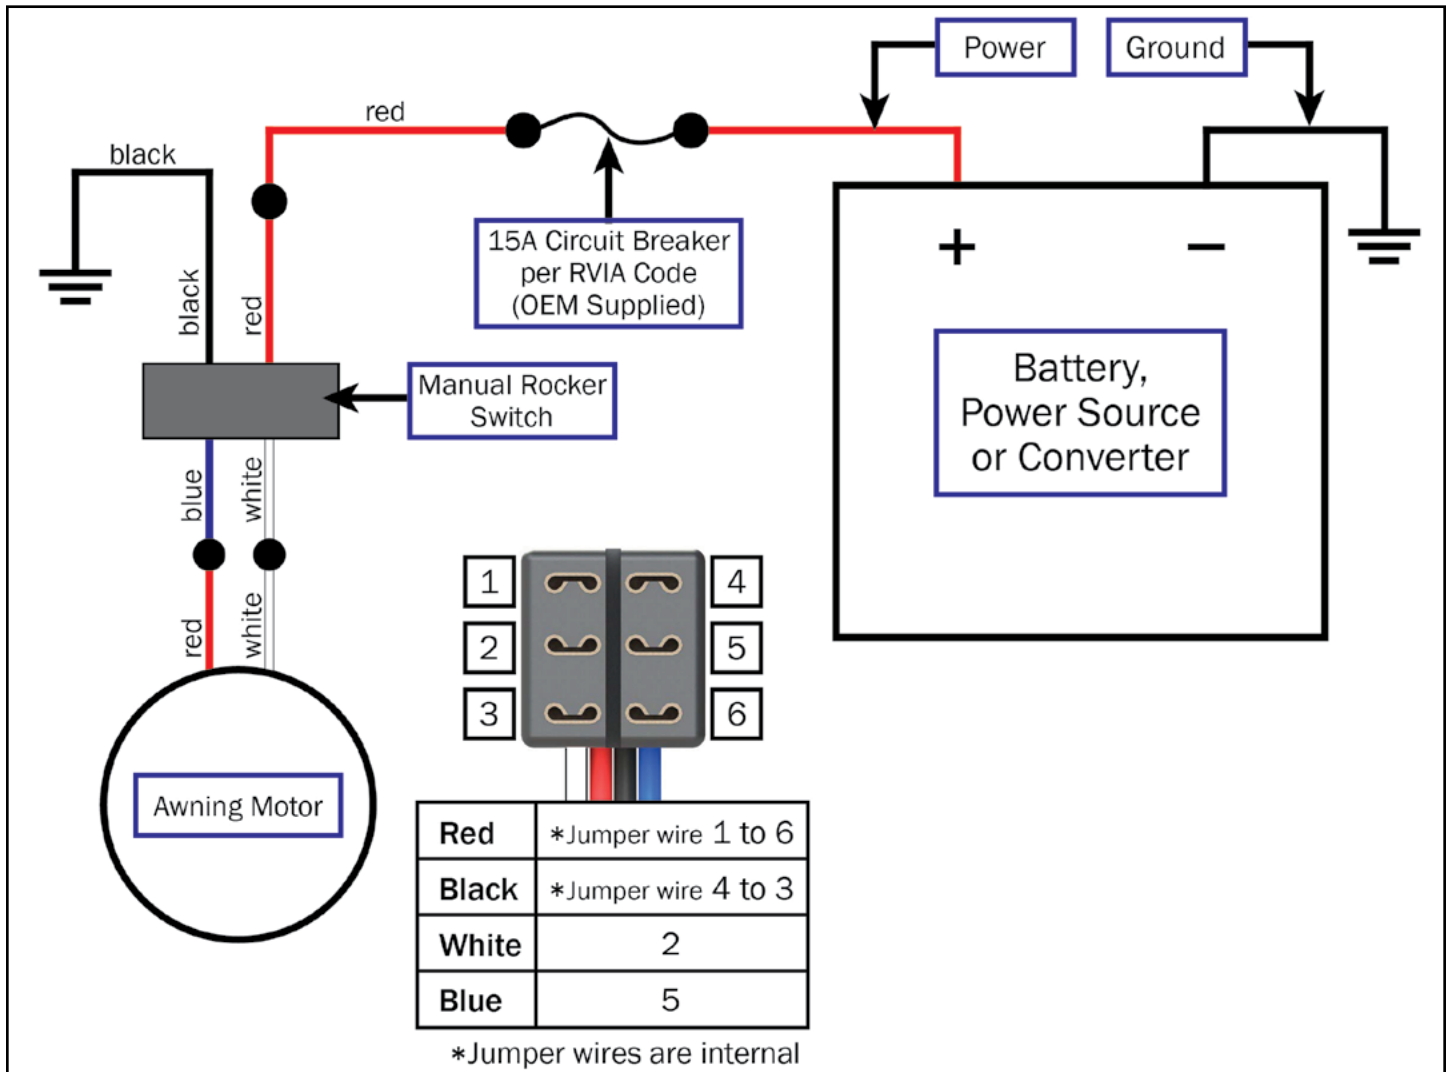

Figure 11
2. Connect wiring from the unit to the switch and the awning drive head per the wiring diagram (Figure 11).